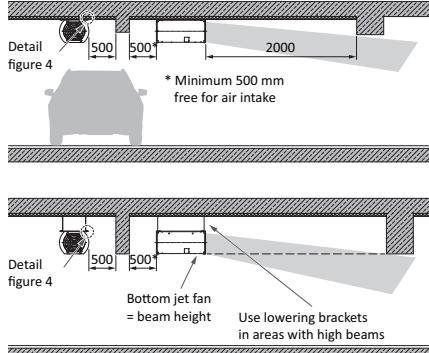

Figure 1. Minimum distance requirements for unidirectional jet fans
- Verify the installation location and check the distances to nearby obstructions. See figures 1 and 2 below.